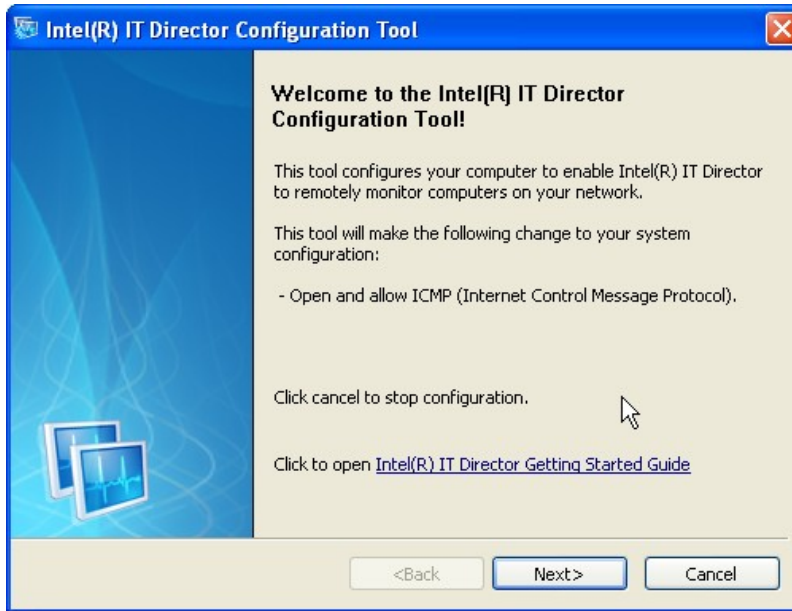

Figure 6-36: IT Director Configuration Tool Welcome Screen
Step 16: The Welcome Screen of the IT Director Configuration Tool in **Figure 6-36** appears.
It is recommended to open the Intel® IT Director Getting Started Guide shown in **Figure 6-36** to fully understand the configuration process.